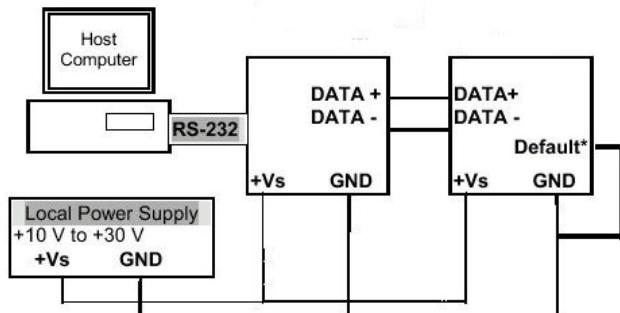

Figure 5.1 Layout for Initialization
2. Connect a brand new CYMOD module with the RS-485. Set the module in *Default State* by shorting the **DEFAULT*** pin. Refer to Figure 5.1 for detailed wiring.